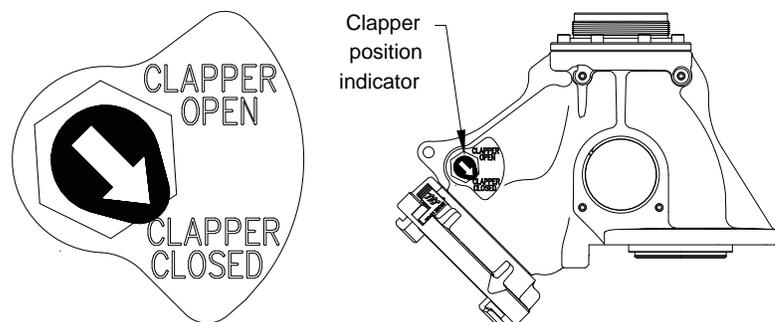
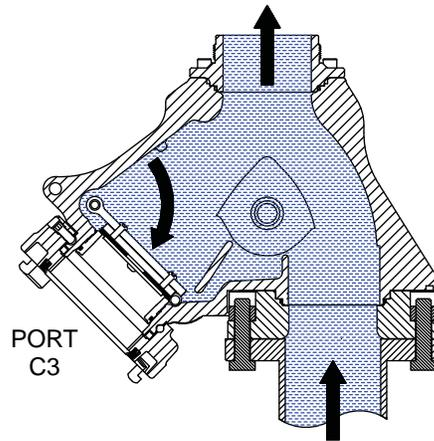

Figure 5.1: Clapper Position Indicator
Figure 5.2.1: Supply monitor from Side A Inlet
Refer to figure 5.2.1. Blue shading indicates water delivered to the monitor from the Side A Inlet. When a water supply is introduced from a standpipe or hydrant below the Booster, the swing-check valve (clapper) within the Booster will remain closed to keep Port C3 sealed. Clapper position can be verified visually by viewing the position indicator shown in figure 5.1. The water supply will flow through the Booster to the monitor with minimal pressure loss as described in section 8.0.
3. After all connections have been made, introduce the water supply. When water reaches the Booster, the swing-check valve (clapper) will swing open and the monitor will begin to flow. Clapper position can be verified visually by viewing the position indicator shown in figure 5.1.